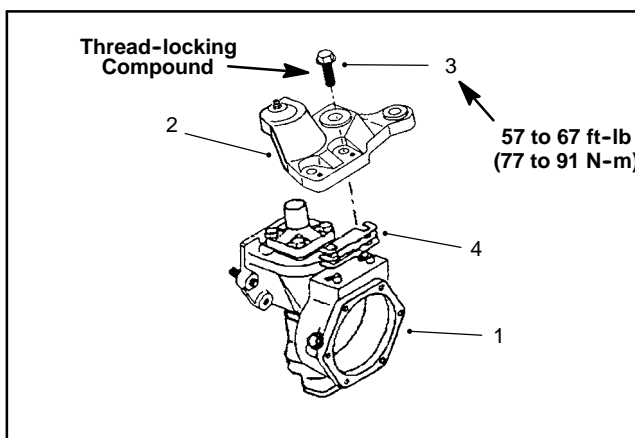

Figure 19
4. Remove the axle case support mounting screws, the axle case support and the support shims (Fig. 19).